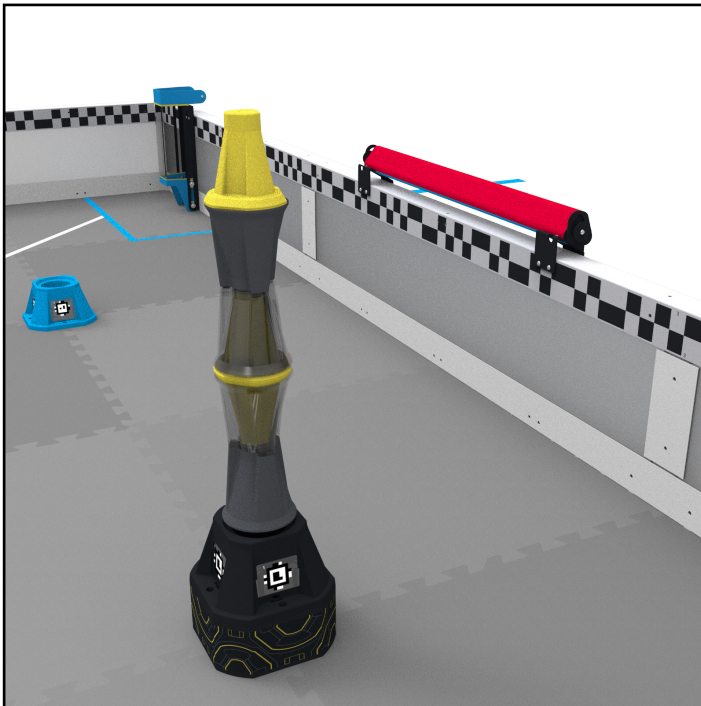

Figure SC5-1 Because the *Quadrant's Toggle* is set to red, yellow *Pins Placed* in this *Goal* are scored for the red *Alliance*.
- The *Toggle* must be fully seated, such that there is a face of the *Toggle* in contact and parallel with its mounts on the *Field Perimeter* at rest. (see Figure SC5-1)